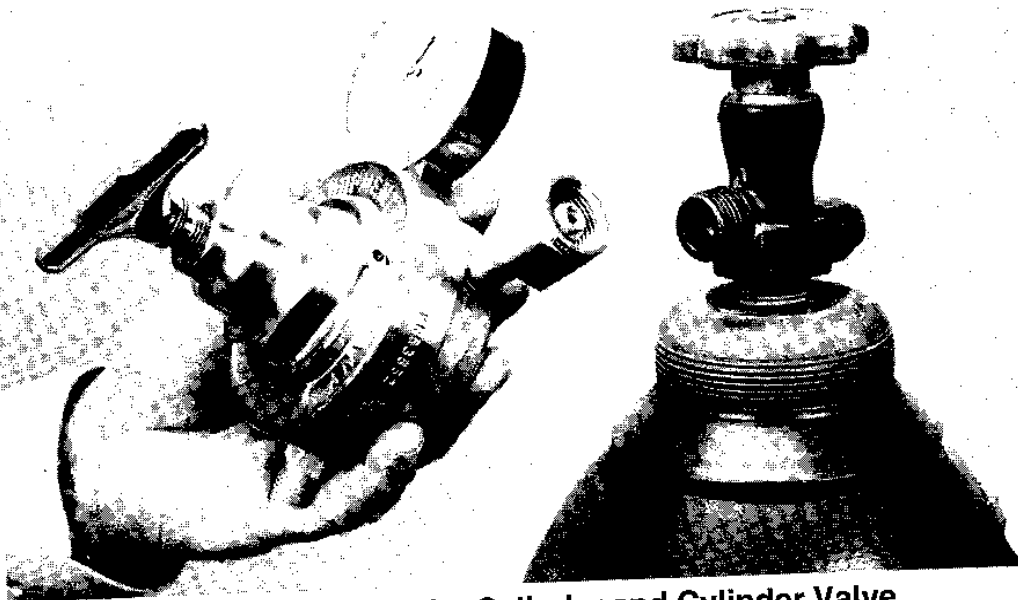

Figure 8, Inspecting the Cylinder and Cylinder Valve
1. Carefully inspect the cylinder valve and regulator threads and mating surfaces for traces of oil or grease. Make sure the regulator has the correct pressure rating for the cylinder being used (see Figure 8).